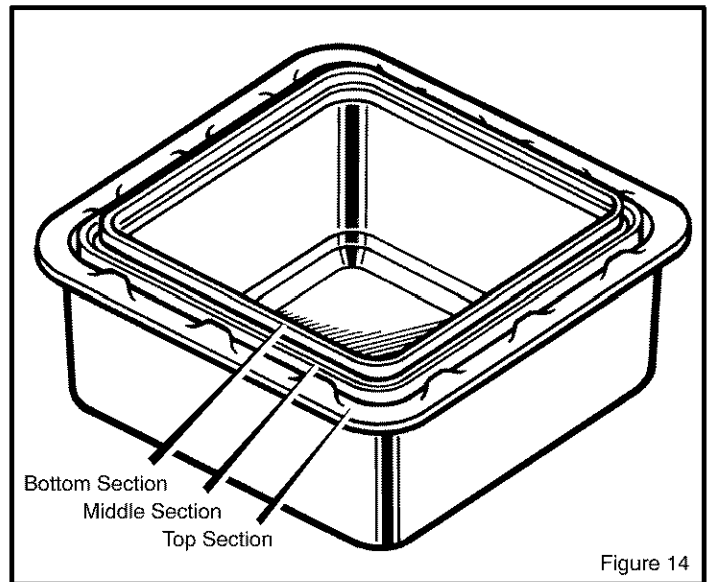

Figure 14
9. Stand with one foot inside the three sections (Figure 14). Lift the **top section** until all three sections connect together. Make sure all four corners of each section are locked together.